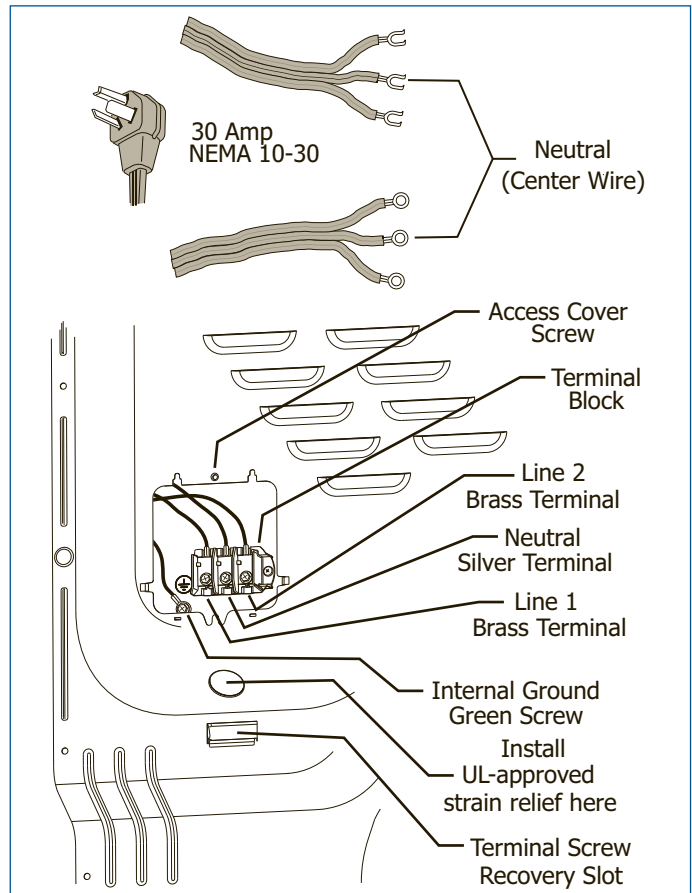

Figure 2-9.
5. Attach the power cord neutral (center wire) conductor to the SILVER colored center terminal on the terminal block. Tighten the screw securely. (See Figure 2-9 & 2-10)